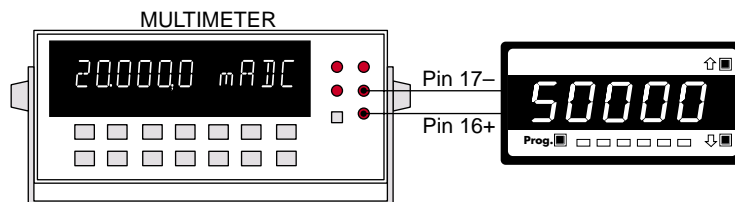

Figure 8 – Multimeter to Meter Connections
- 2) Connect a multimeter to the analog output connector at the rear of the meter (pin 16 positive, pin 17 negative). See Figure 8.